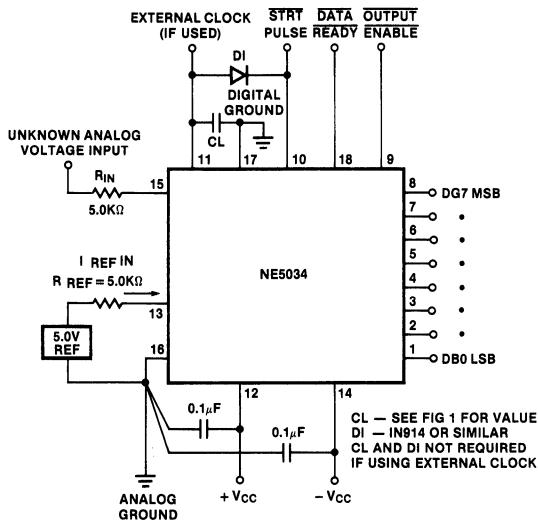

FIGURE 4.
An external capacitor between this pin and ground generates the internal clock pulses. (See diagram for clock frequency vs capacitor value). In order to synchronize the internal clock, to the start pulse a diode (small signal type e.g., 1N914) should be connected between STRT and CLK IN (see Figures 4 and 5). Without this diode the start pulse could occur at a time which could cause one of the conditions described in the Note on "set up" time. Applying an external TTL- or MOS-compatible clock to this pin slaves the NE5034 to external clock frequency. In this case, the diode is not required but the "set up" time requirements should be noted.
- Adjust the voltage applied to  $V_{REF IN}$  (Figure 4) until the LSB varies between '0' and '1', and all other data outputs stay '1' after each conversion.
A standard connection for a 0 to 10V unipolar binary operation, with  $V_{REF IN}$  equal to +5 volts, is shown in Figure 4. The NE5034 can quantize full scale ranges of 1V to 10V. It should be noted, however, that for smaller full scale ranges, the accuracy and speed will degrade.